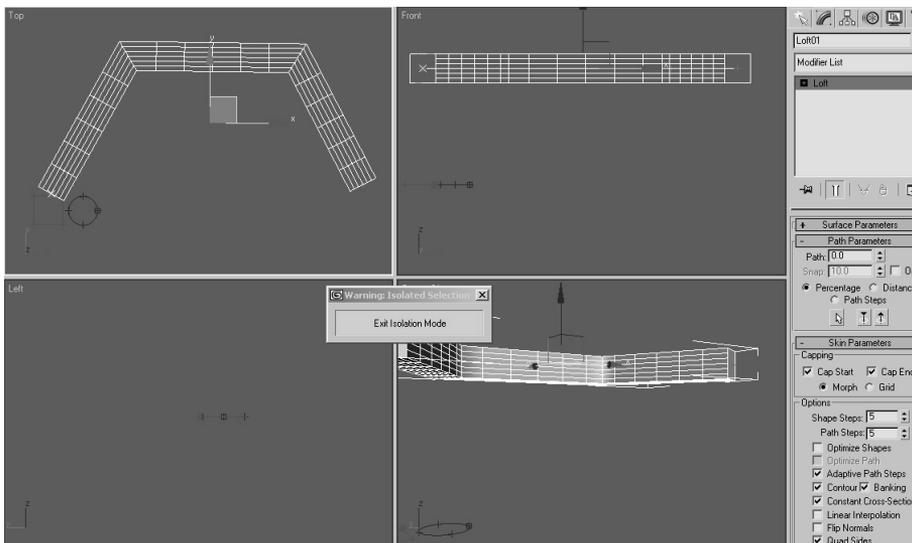

FIGURE 9.23 A square shape lofted along a Path with both the *Path Steps* and *Shape Steps* fields set to 5.
3. You notice a white box around each first vertex on each spline of each shape. (They are all simple shapes.) The first vertex of the square and circle are out of relative position by 45 degrees. In the Top viewport, select duct_path. In the Create panel, Geometry panel, Compound Objects panel, click the Loft button. In the Creation Method rollout, click the Get Shape button. In the Top viewport, pick duct_shape01 (square). You now have a simple square duct in the scene. The Path Steps and Shape Steps settings are remembered from the preceding exercise. In the Modify panel, Skin Parameters rollout, enter 5 in both the Path Steps and Shape Steps fields. Rename the object Duct01. You will optimize later (see Figure 9.23). In the Skin Parameters rollout, clear the Transform Degrade check box so the changes you make later will be visible in the viewport.